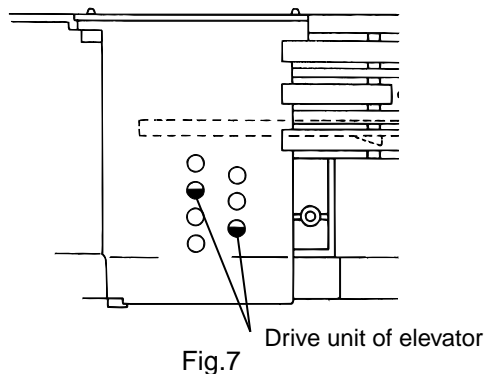

Fig.7
**[Caution]** In case the driver unit elevator is not at above position, set the elevator to the position as shown in Fig.7 by manually turning the pulley gear as shown in Fig.8.